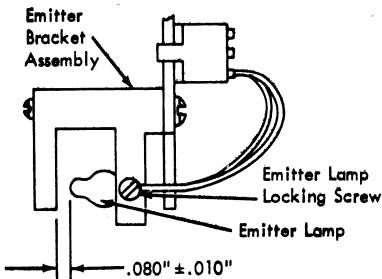

Figure 4-14. Read Emitter Lamp Adjustment
3. Maintain $.080" \pm .010"$ between tip of lamp and cell mounting bracket (Figure 4-14).